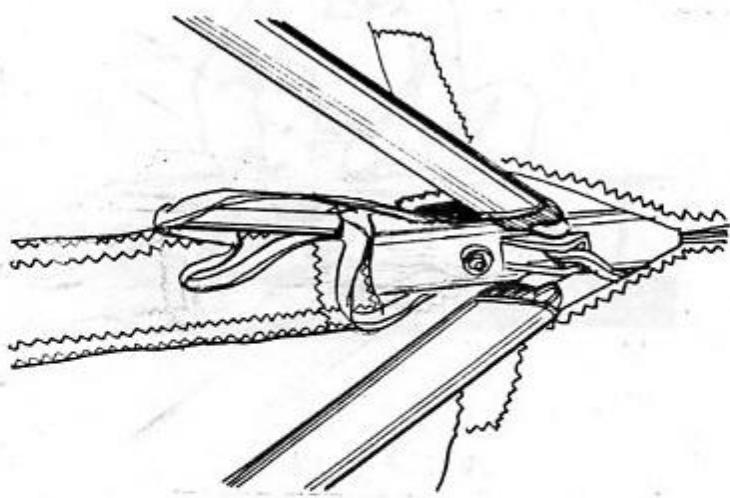

Fig. 5.1.7.
10. Place hang loop spreader bar along the keel tube (Fig. 5.1.7).